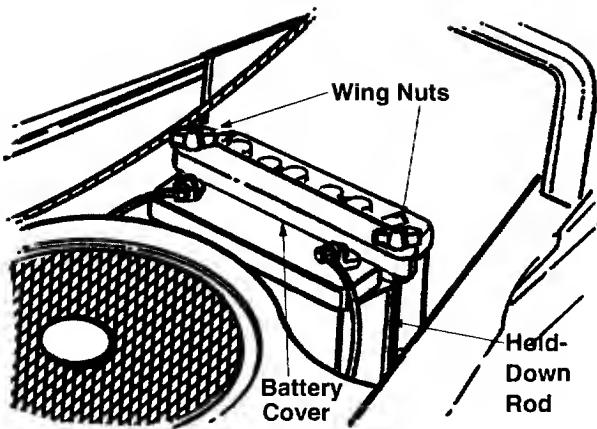

Figure 17
4. Place the battery cover in position over the hold-down rods. Secure with wing nuts. See Figure 17.